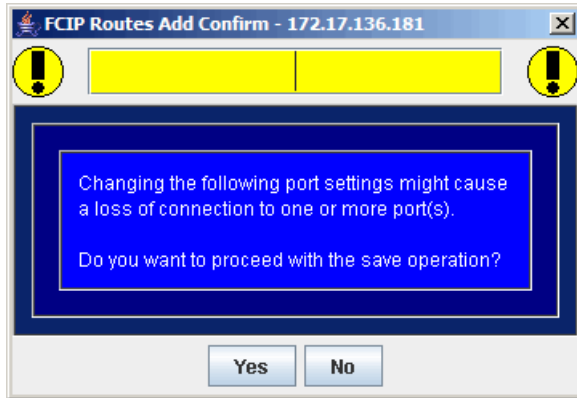

Figure 35 FCIP route add wizard—warning dialog box
1. A warning displays when you launch the **FCIP route add** Wizard, see Figure 35. Click **Yes** to proceed, or click **No** to cancel the Wizard.